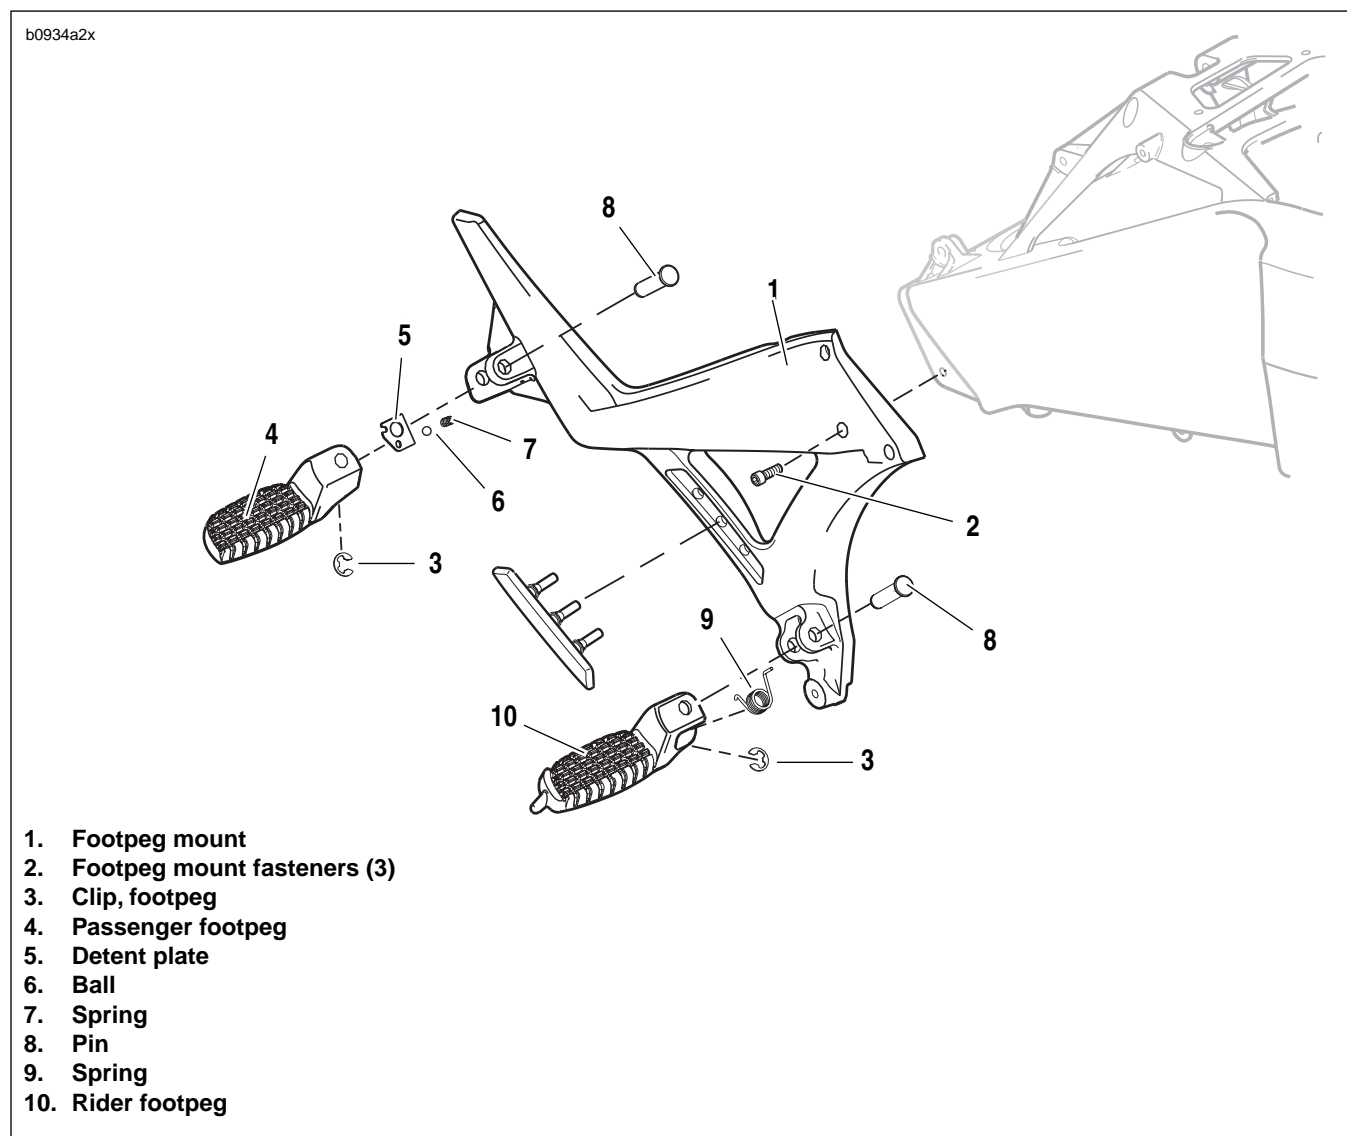

Figure 2-117. Rider Footpeg, Mount and Heel Guard Assembly
1. See Figure 2-117. Remove clip (3).
2. Remove footpeg pin (8).
3. Remove footpeg (10) and spring (9).
1. See Figure 2-117. Fit spring ends to footpeg mount and footpeg.
2. Hold footpeg (10), controlling spring, to footpeg mount (1).
3. Install footpeg pin (8) through mount, spring and footpeg.
4. Install clip (3)
2. See Figure 2-117. Remove footpeg mount fasteners (2). See Figure 2-120. On the right side, remove the 2 fasteners holding the rear brake master cylinder to the mount.
4. Remove footpeg mount (1).
3. See Figure 2-117. Position footpeg mount (1).
4. Apply LOCTITE 272 (red) to footpeg mount fasteners (2), install and tighten to 132-144 **in-lbs** (15-16 Nm).